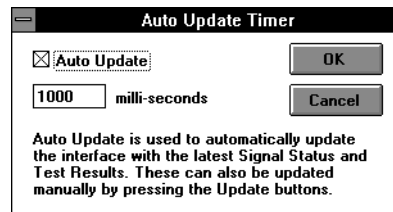

Figure 2-2: The Auto Update Timer dialog box
**Auto Update Timer.** Select this item to display the Auto Update Timer dialog box (see Figure 2-2). The default refresh interval is once per second. You can set the refresh interval to other values using the text box. Click on **OK** after you have entered the new value.